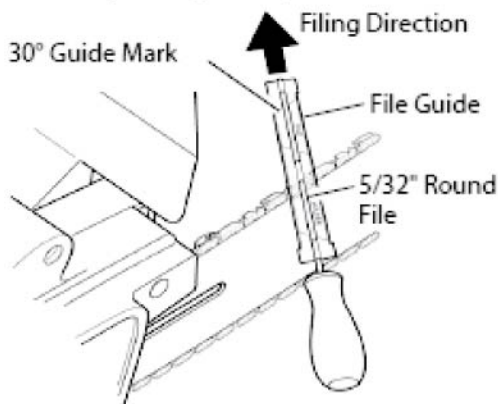

Fig.15
3. Press 5/32" round file (attached to file guide) into groove between top plate and depth gauge on chain. File guide should rest on both top plate and depth gauge (See Fig.15). (Note: File at midpoint of guide bar.)